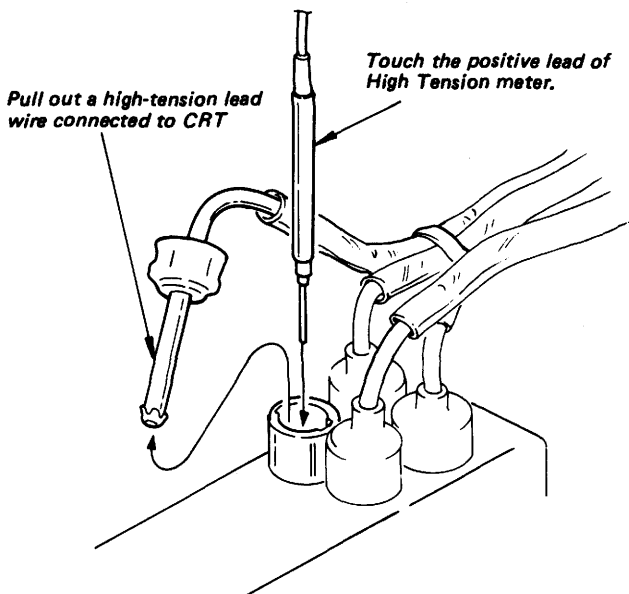

Fig. 3-1
- (1) Confirm that the POWER switch is in OFF position.
- (2) Connect the positive lead of the high tension meter to the HV. DC block and the negative lead to the ground lug beside the heat sink as shown in Fig. 3-1.
- (3) Feed in a color-bar pattern from a color-bar/pattern generator and turn the BRIGHT and PICTURE controls for maximum beam current. (Be sure to synchronize the picture).